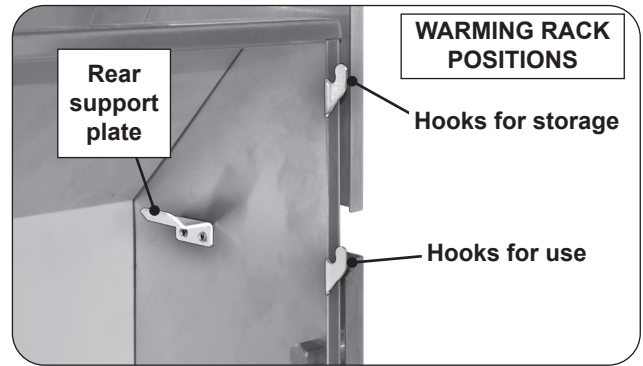
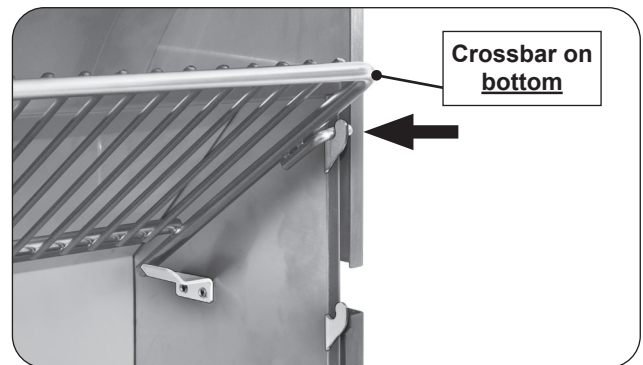

Fig. 29-1 Warming rack hooks
Fig. 29-3 Place warming rack in storage position
1. Locate the warming rack hooks and rear supports found on the upper portion of the grill oven (see Fig. 29-1).
Use the top hooks for storage (see Fig. 29-1 and Fig. 29-3).